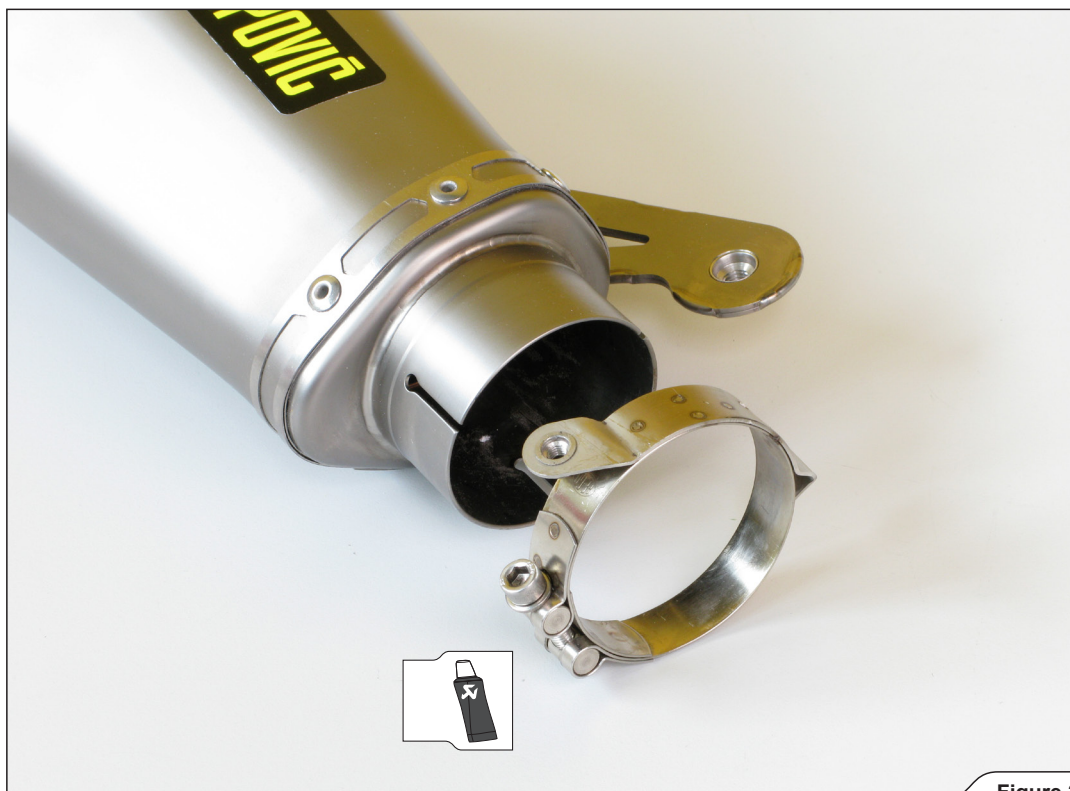

Figure 2
1. Correctly install the clamp onto the muffler inlet bush as shown (**Figure 2**).